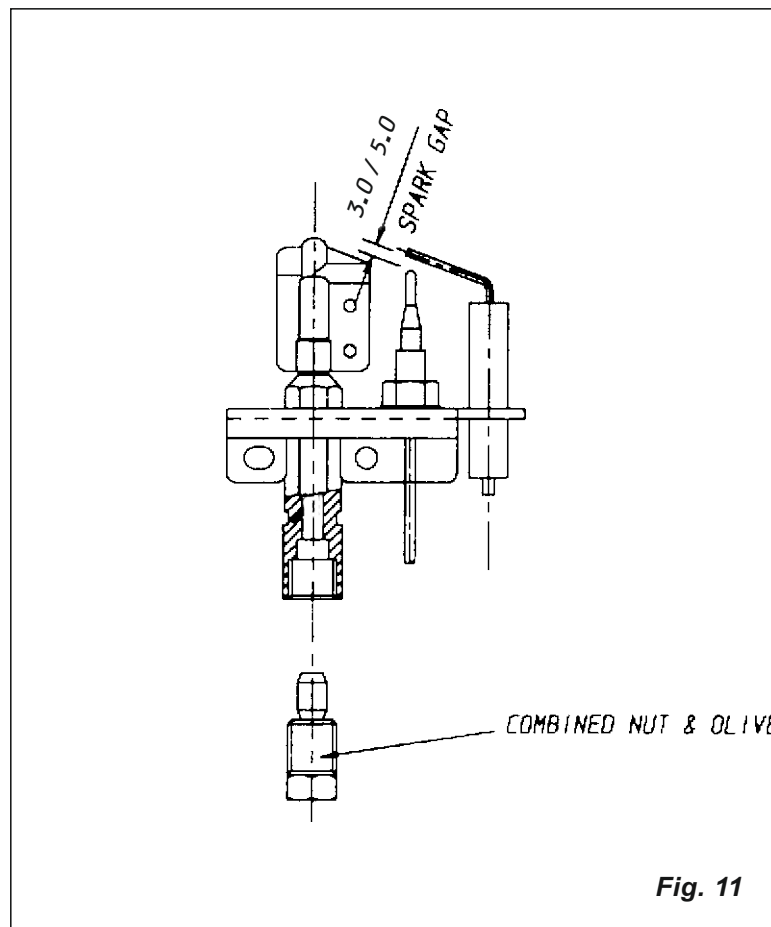

Fig. 11
N.B. The spark electrode is positioned as shown in Fig. 11.